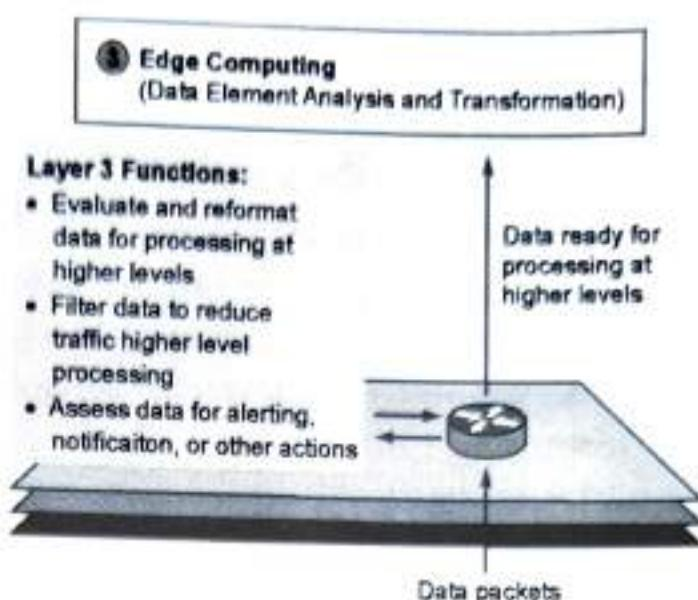

Fig. 2.3.4 : IoT Reference Model Layer 3 Functions
- Fig 2.3.4 shows the functions of Layer 3 of the IoT Reference Model.